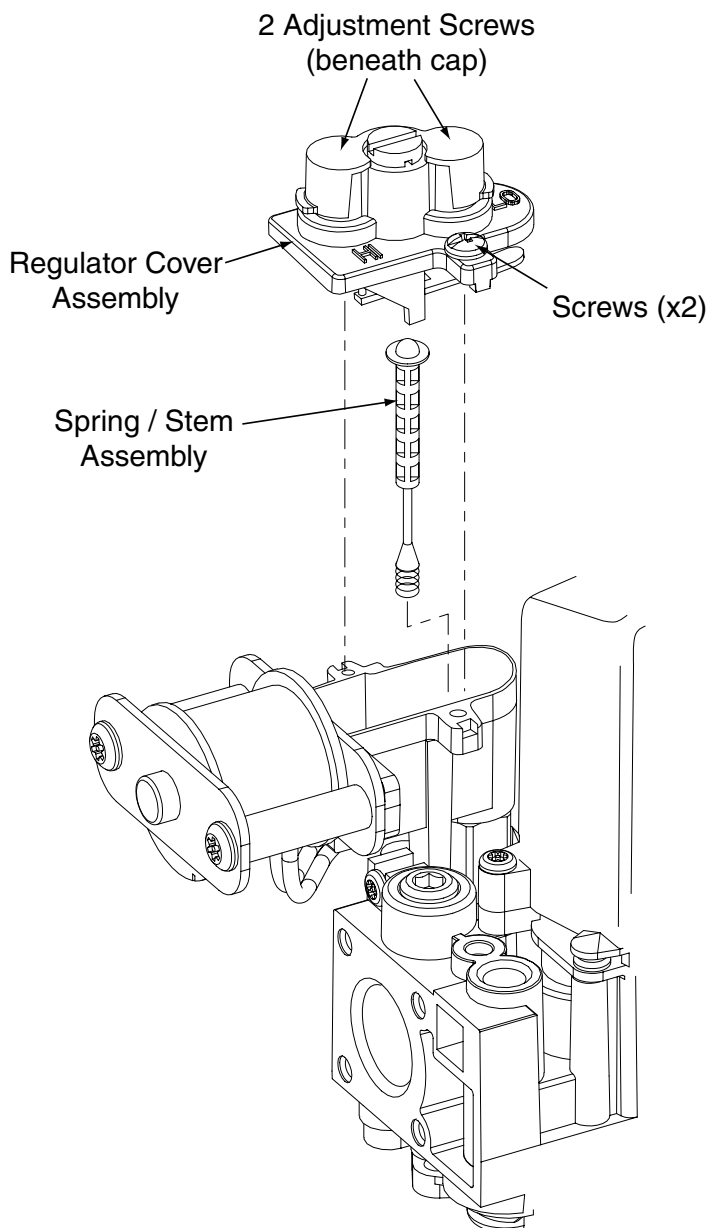
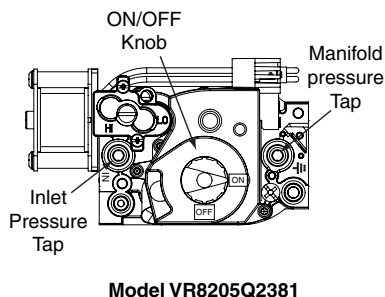

Figure 4. Spring / Stem Assembly Removal
Figure 5. Inlet & Manifold Pressure Tap Locations
1. Remove two screws securing the pressure regulator cover assembly to the gas valve. Do not discard the screws. See Figure 4.
2-stage gas valve: For VR8205Q2381 models, remove the plastic cap covering the adjustment screws (Figure 4 page 4).
2. Using a screwdriver or Allen wrench (where appropriate), slowly turn the adjustment screw till the appropriate manifold pressure listed in Table 2 is achieved. See Figure 2 for VR8205S2890 or VR8215S1289 models. See Figure 4 for VR8205Q2381 models or Figure 5 for VR9205Q1127 models.